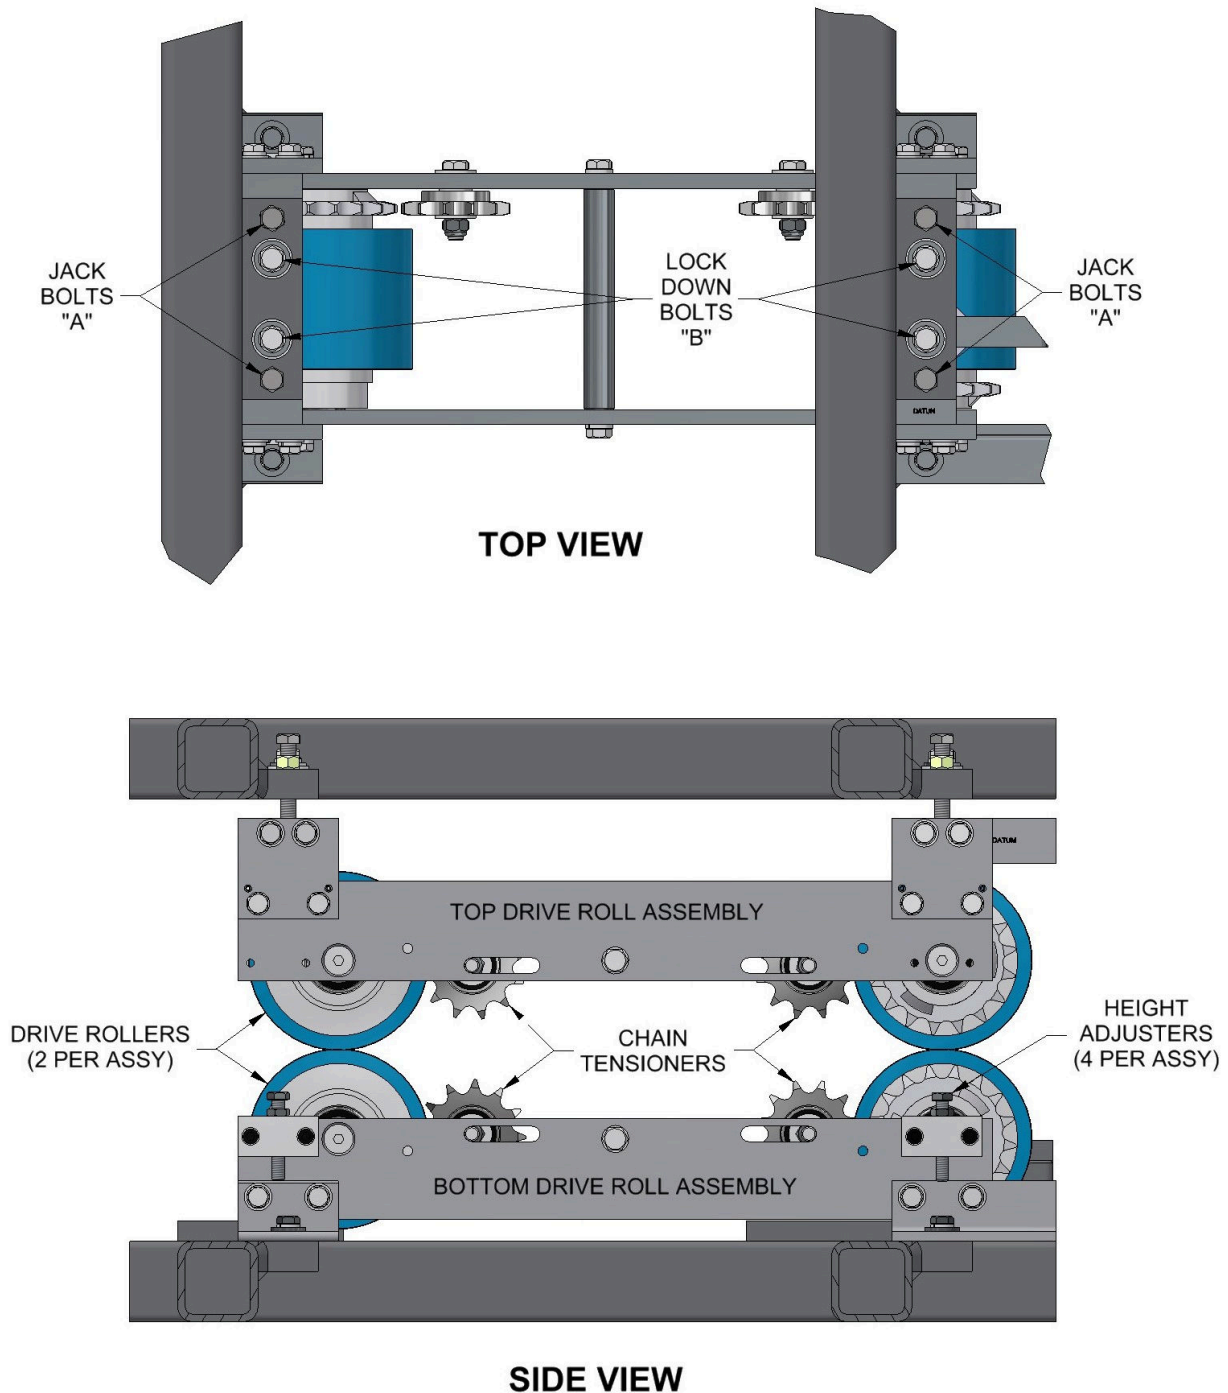
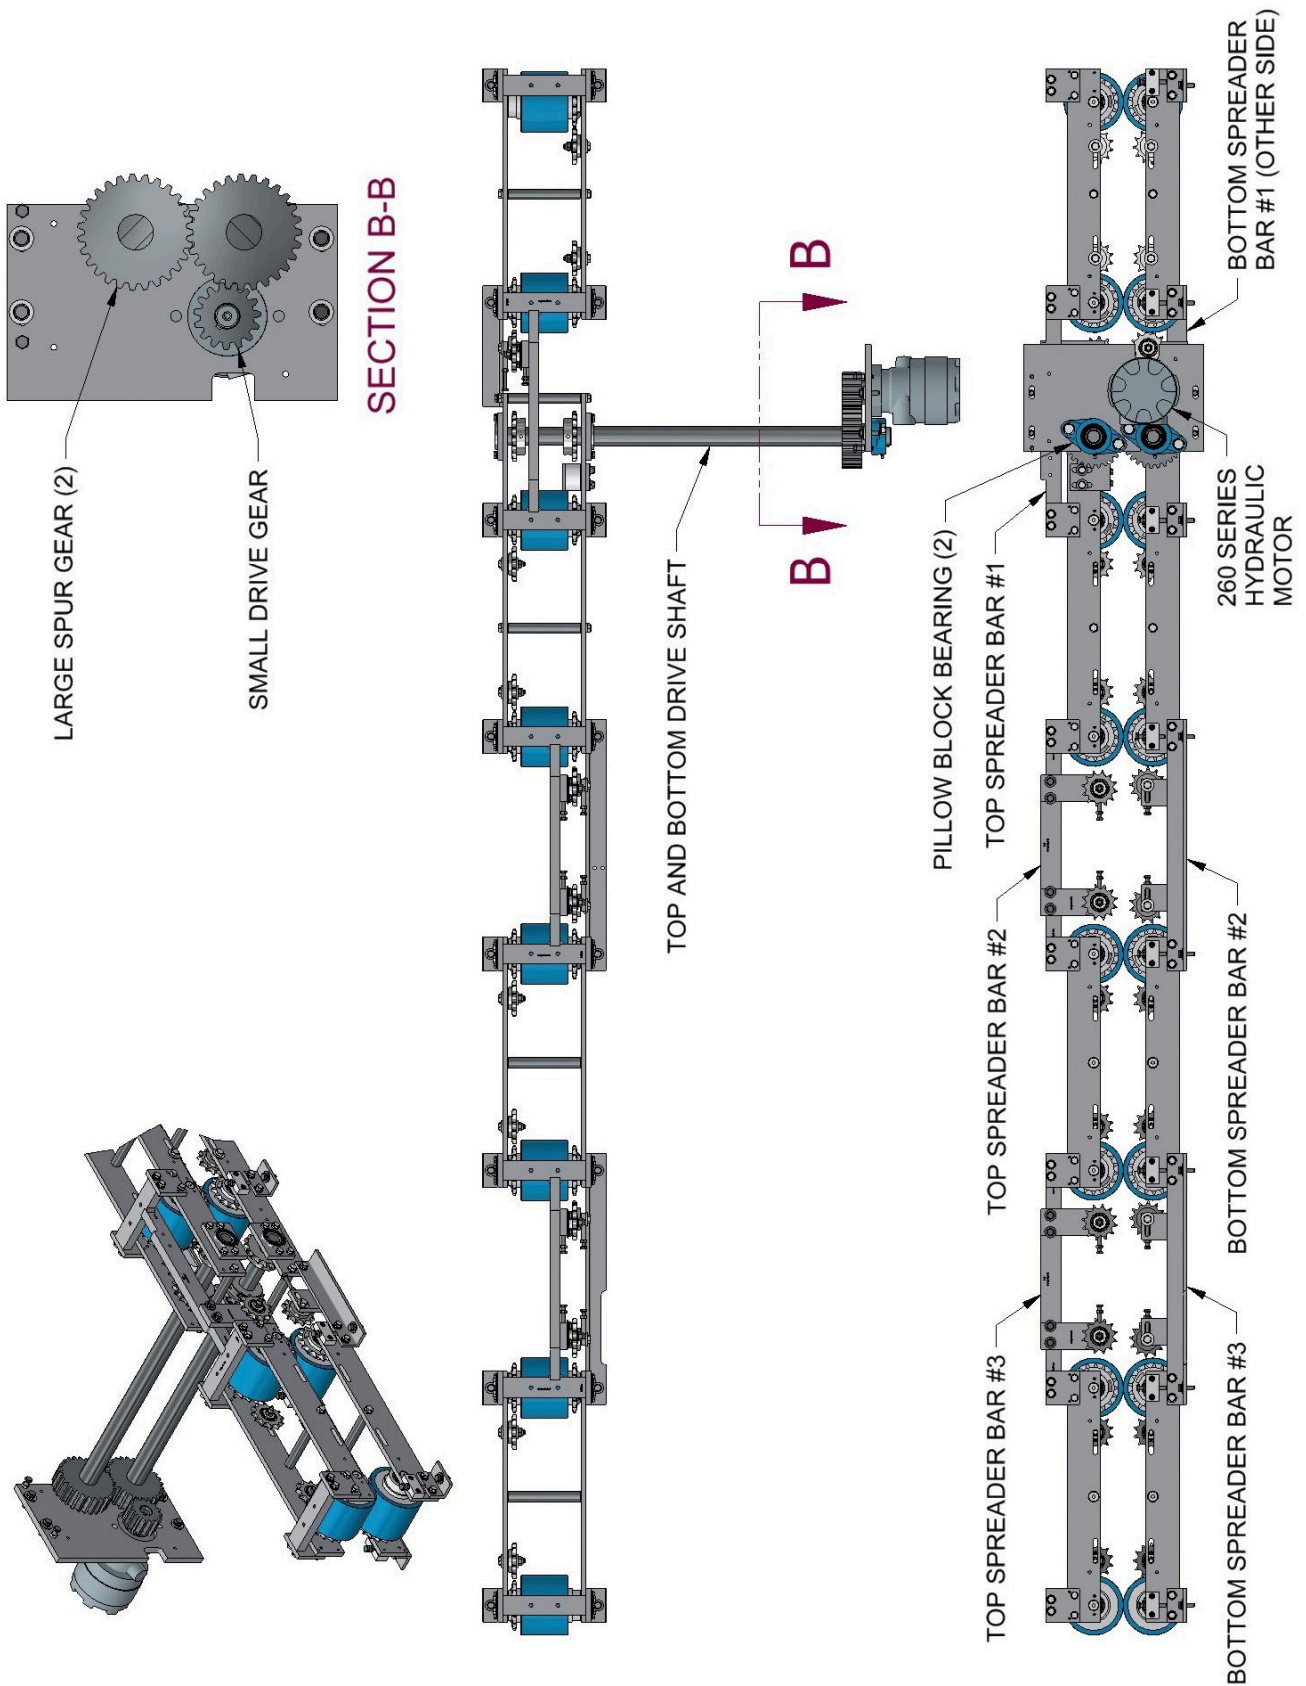
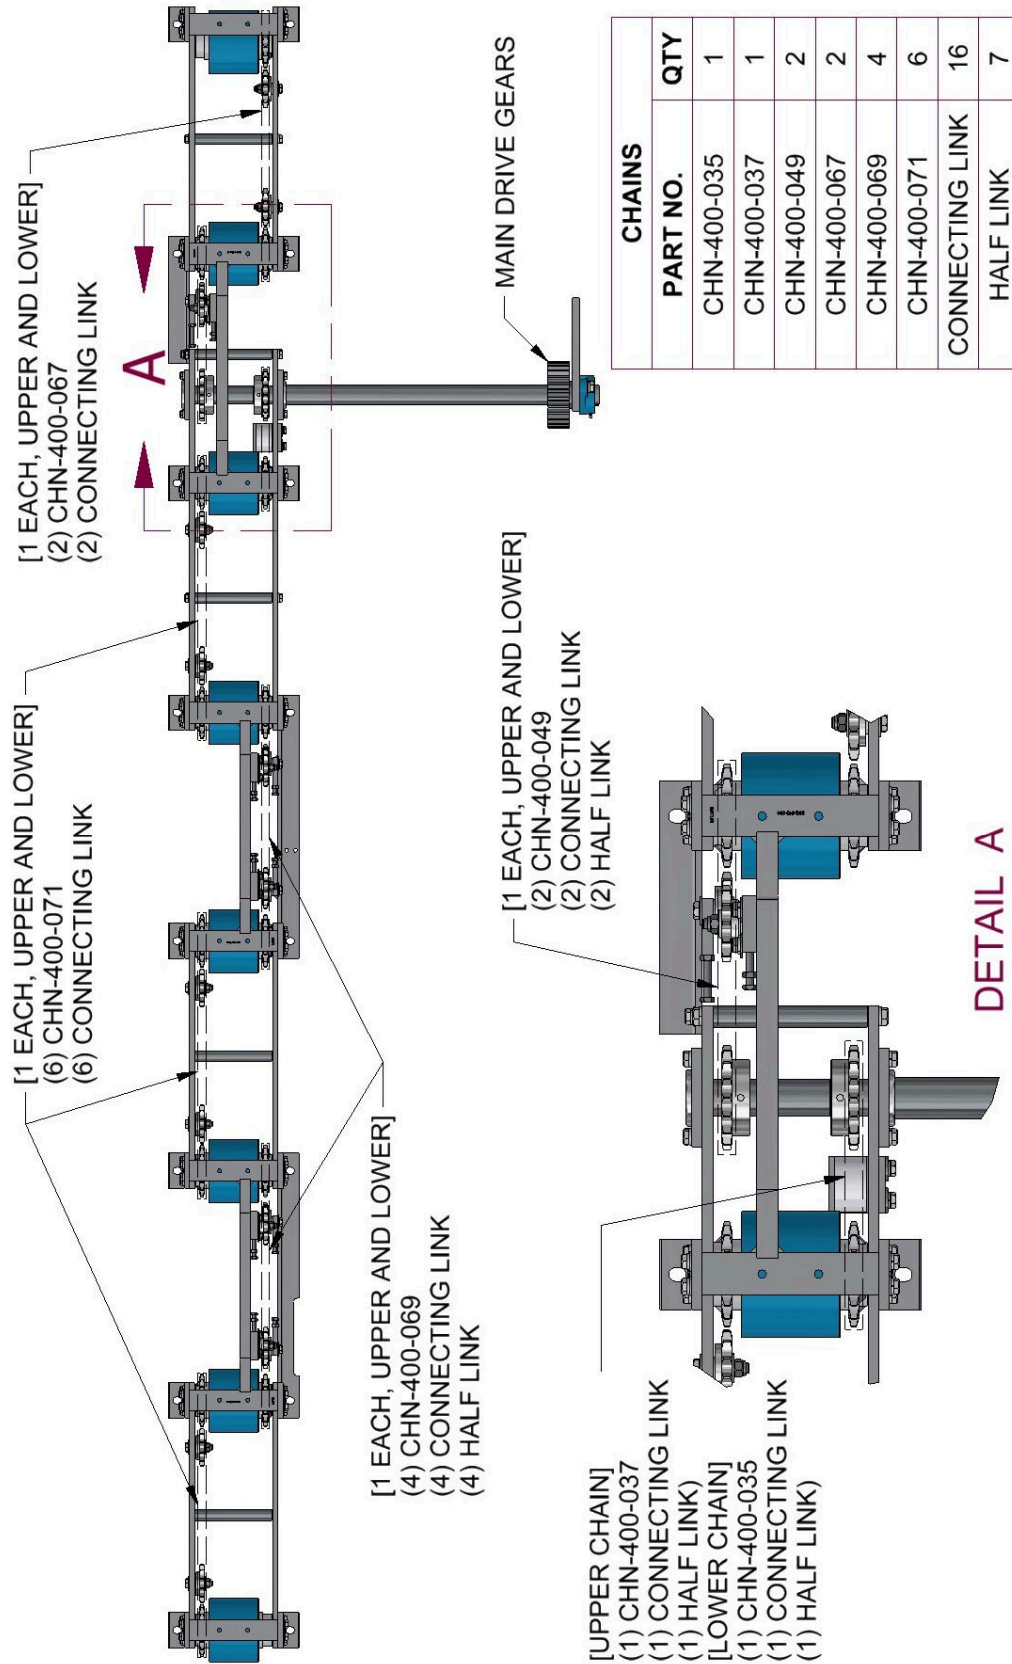

Figure 25: Drive Roll Assembly View
Figure 26: Gears and Shafts
Figure 27: Chains Upper and Lower
(Figure 25, Figure 26 & Figure 27)
- C. The third is located on the Top #1 Spreader Bar between the sprocket and drive roller. (see detail 'A' Figure 27) Loosen two "D" bolts enough to move the tensioner assembly up toward the chain until snug. Re-tighten the two "D" bolts.
3. The chains used in this system are #50 Roller Chain. See Figure 27 for chain locations and lengths if chain replacement is necessary.